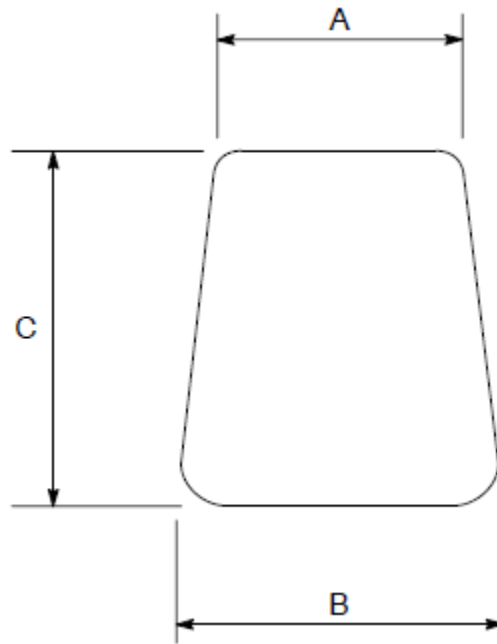

Figure 1. Redwood Plug
- 1.2. Refer to Table 1 for redwood plug (Figure 1) dimensions and code numbers.